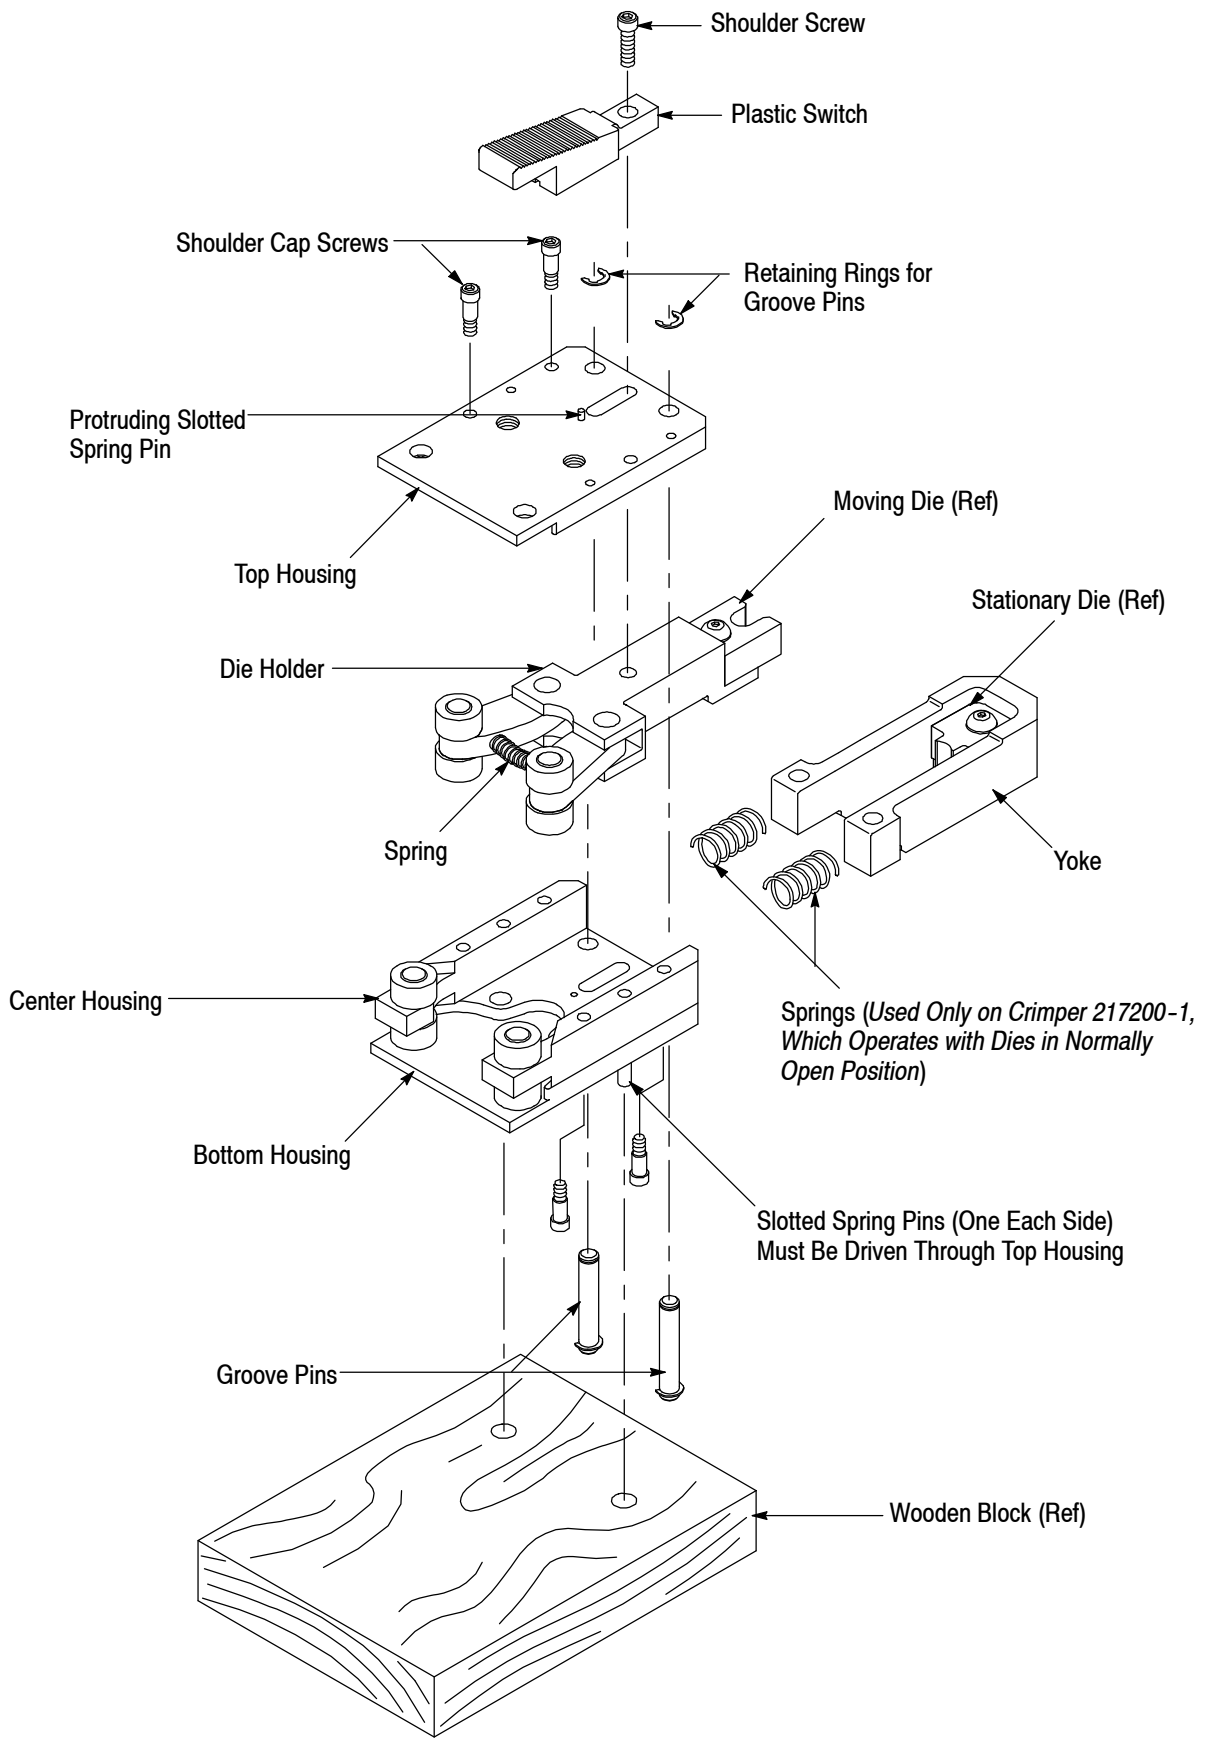

Figure 4
1. Lift the die holder assembly out from the center housing while being careful that the pins and rollers *do not* fall out of the links which are connected to the bottom of the die holder. Refer to Figure 4.
6.1. Disassembly (Refer to Figure 4)
6.2. Assembly (Refer to Figure 4)